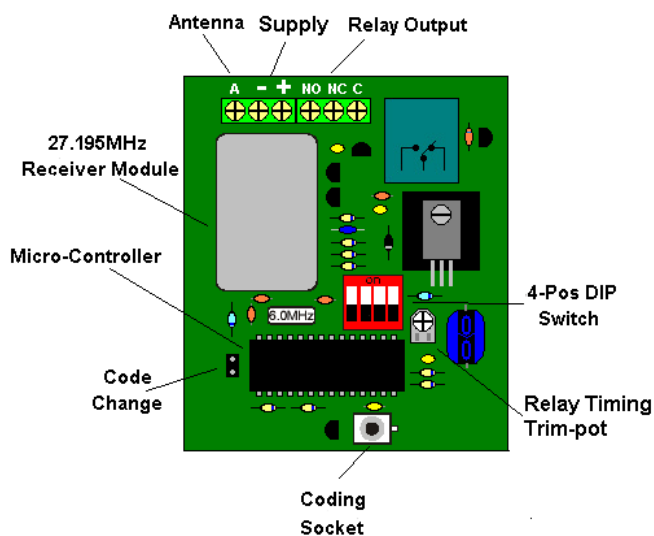
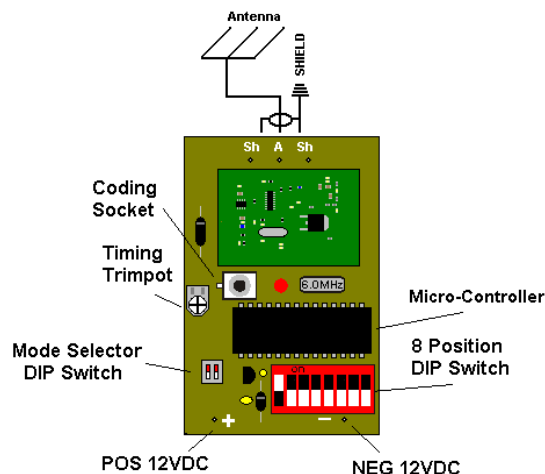

Figure 1. SRWSS-1 Receiver Board
Figure 3. SRWSS-1 Transmitter Board
1. Remove the blue inside covers of the receiver and transmitter to reveal their coding sockets. Refer to Figure 1 on page 3 to find the receiver coding sockets and Figure 3 on page 4 to find the transmitter coding sockets.
3. If a new security code is needed, momentarily short the code change pins marked by the "CC" symbol using either the jumper found on one of the coding pins or a flat-bladed screwdriver. Refer to Figure 1 on page 3 to locate the code change pins.
2. To randomly generate a new receiver code, momentarily short the code change pins marked by the “CC” symbol. Refer to Figure 1 on page 3 to locate the code change pins.
2. Short the two code change pins marked with the symbol “CC” on each receiver by sliding the jumper that comes with each receiver over the pins. Refer to Figure 1 on page 3 to locate the code change pins. Maintain all shorts until programming for all receivers is complete.
The receiver has eight modes that control how the outputs function. These modes are selected using the four-position DIP switch on the receiver. All time durations for each operating mode can be adjusted using the trimpot. Turning the trimpot clockwise increases time durations and turning it counter-clockwise decreases the duration. Refer to Figure 1 on page 3 to find the trimpot on the receiver. Table 1 below lists and describes each operation mode. The white boxes in the diagram represent the position of the DIP switches.
Transmitter operation modes are selected using the two-position DIP Switch on the transmitter. The time durations of the transmitter operation modes can be adjusted using the trimpot. Refer to Figure 3 on page 4 to locate the trimpot on the transmitter. Table 2 below describes the operation modes, and the white boxes in the diagrams represent the position of the DIP switch.